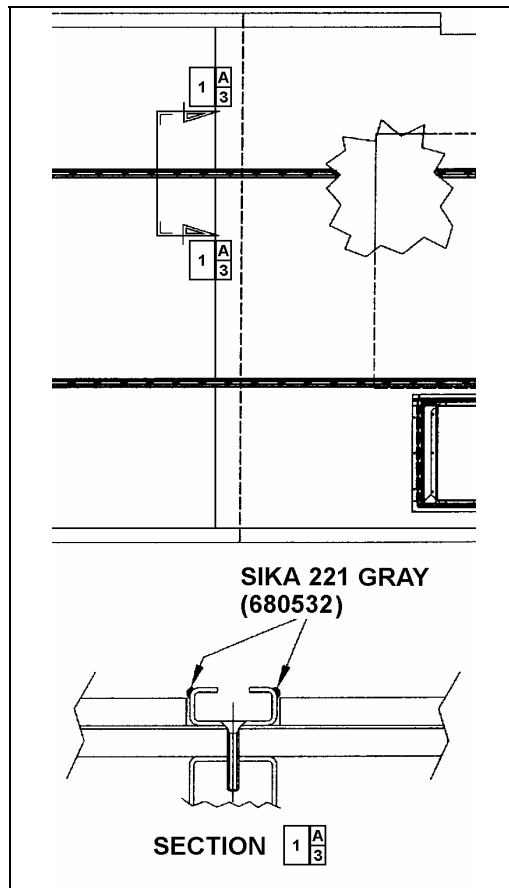

FIGURE 46: APPLICATION OF SIKA 221 GRAY¹⁸⁶⁴¹
8. Apply Sikaflex 221 gray sealant (680532) alongside passenger seat fixing tracks (refer to figure 46).